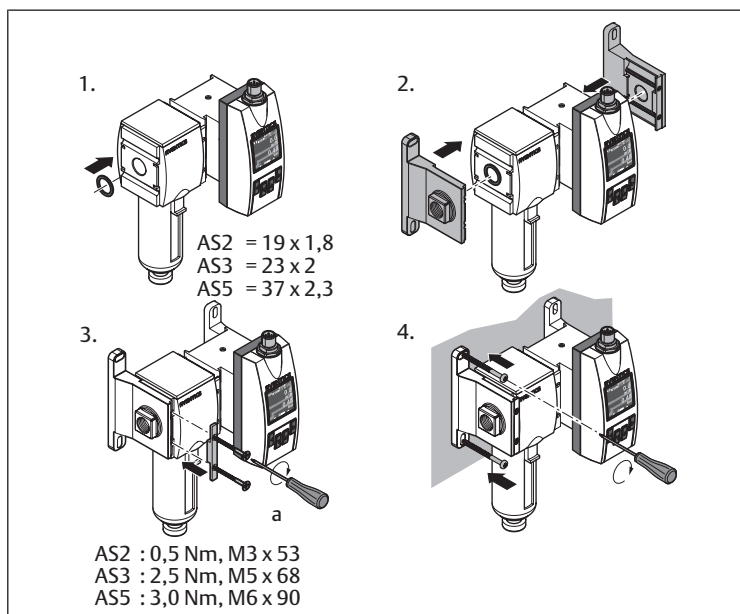

Fig. 7: Assembly with block assembly kit | W05
- Assembly with block assembly kit (without air preparation unit): see → Fig. 7.